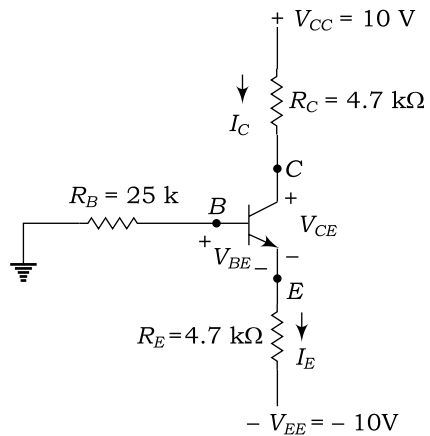

Fig. 2.126
53. The emitter bias circuit of an *NPN* transistor is depicted in Fig. 2.126. Explain how the Q -point changes when the value of β changes from 50 to 100. Assume $V_{BE} = 0.65$ V.